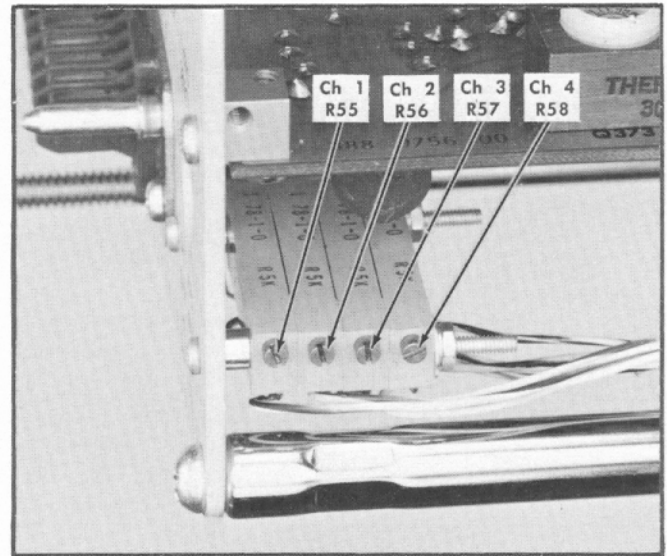

Fig. 7-22. Location of the TRIGGER SELECTOR BAL adjustments for each channel. Left side rear view.
f. ADJUST—Ch 1 TRIG SELECTOR BAL control R55 (see Fig. 7-22) to position the trace to graticule center. A check on the adjustment can be made by placing the SIGNAL & TRIGGER SOURCE switch to 2 and then back to 1. The trace should be at the same location for both positions of the switch.
h. Use Table 7-9 and steps 16e through 16f as a guide for checking and adjusting the TRIG SELECTOR BAL controls (R56, R57 and R58) for the remaining channels. Locations of the adjustments are shown in Fig. 7-22.